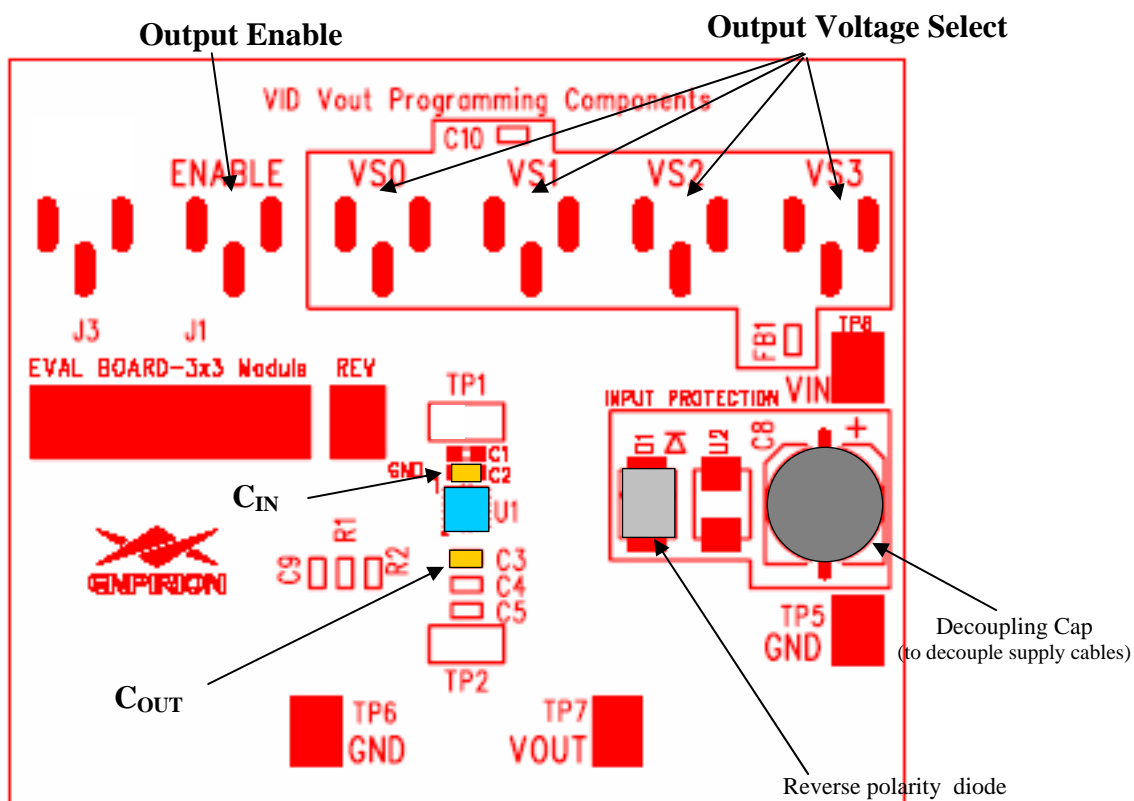

Figure 1. Evaluation Board Layout.
This application note describes how to test the following EP53x8xQI converters using the Enpirion 3x3 Module EVAL BOARD shown in Fig. 1: EP5368LQI, EP5368HQI, EP5388LQI, EP5388HQI, EP53A8LQI, and EP53A8HQI. In addition to this document you will also need the device datasheet.
STEP 2: Connect a power supply to the input test points, TP8 (+) and TP5 (-) as indicated in Figure 1. The same test points can also be used to measure the input voltage.
STEP 4: Connect the load to the output connectors TP7 (+) and TP6 (-), as indicated in Figure 1. The same test points are also used to measure the DC output voltage.